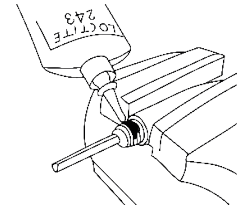

Figure 1.
2. Coat thread with Loctite 243 (figure 1) or equivalent to prevent water from entering.